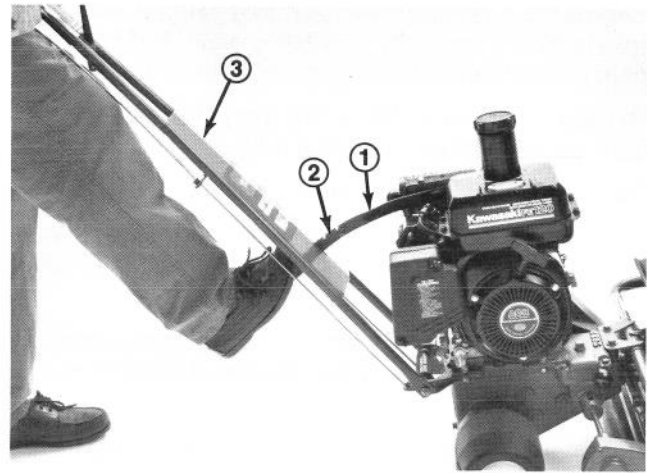

Figure 2
2. Raise handle assembly, fit adjusting bar through slotted hole in handle and latch handle into notch in adjusting bar (Fig. 2).
Adjust the height of the handle to suit the operator's height. Grasp the handle grips, push down on the adjusting bar with your foot and move handle assembly up or down until most comfortable position is achieved (Fig. 2). Lift foot and allow handle to lock into notch in adjusting handle (Fig. 2).